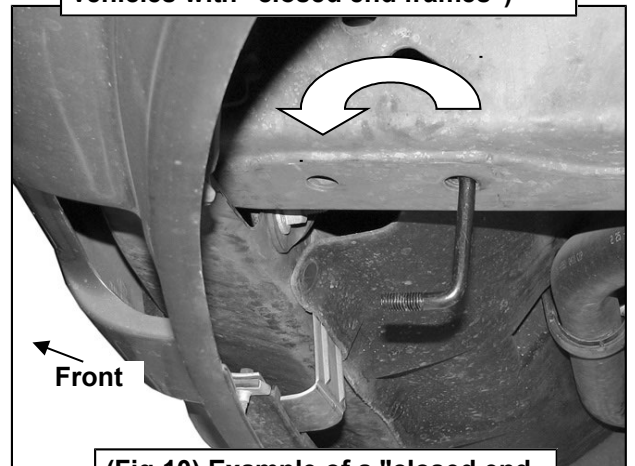

Fig 8
- a. Select (1) 12mm Bolt Plate, **(Figure 7)**. Insert the Bolt Plate into the open end of the frame and down through the rear hole in the bottom of the frame, **(Figure 8)**. Thread (1) 12mm Flat Washer, (1) 12mm Lock Washer and (1) 12mm Hex Nut onto the Bolt Plate.
- c. Insert (1) 12mm Bolt Plate through the remaining hole toward the front of the Mounting Bracket. Secure the Bracket to the forward Bolt Plate with (1) 12mm Flat Washer, (1) 12mm Lock Washer and (1) 12mm Hex Nut, **(Figure 8)**. Do not tighten the hardware.